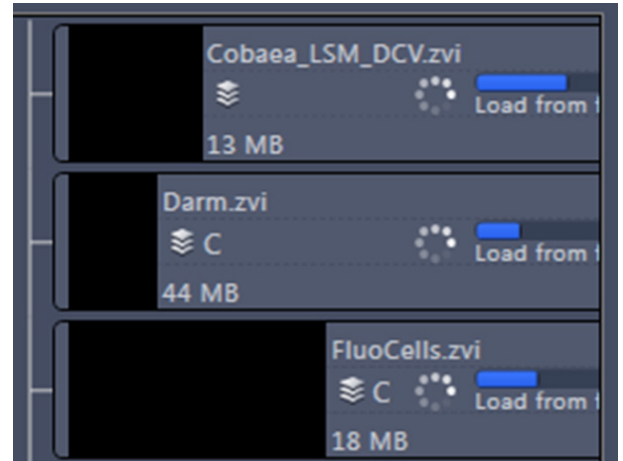

Fig. 643 Image progress bar
- A progress bar (Fig. 643) is shown for each image facilitating the overview if e.g. many processing functions are running at the same time.